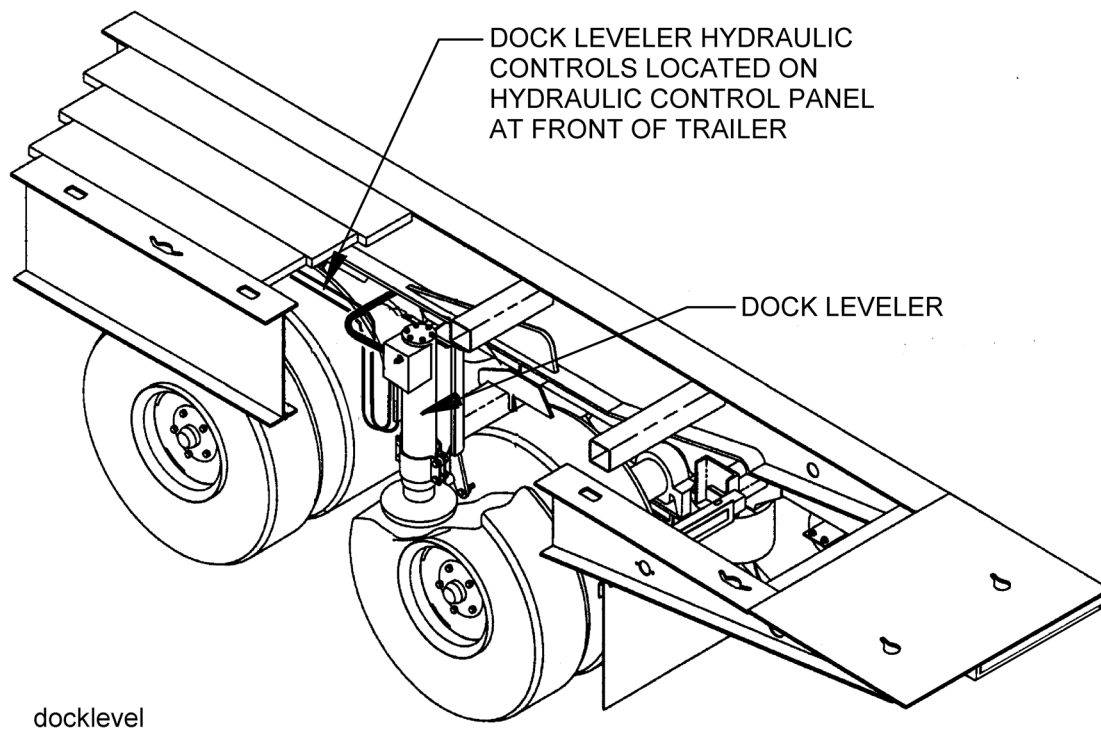

Figure 3-12: Dock Leveler Operation
3. If your semitrailer is equipped with optional dock leveler hydraulics, these may be used to level the rear of the semitrailer to a loading dock. The dock leveler pair is located at the rear of the trailer between the axles (**See Figure 3-12.**)